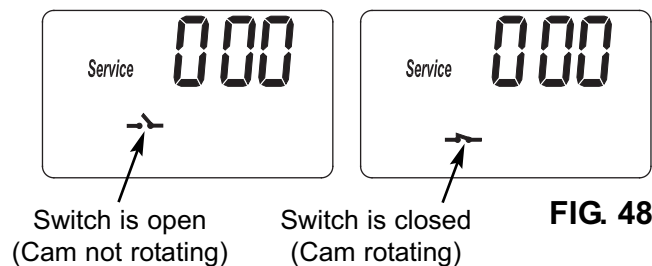

FIG. 48
3. Symbols in the display indicate POSITION switch operation (See Figure 48).